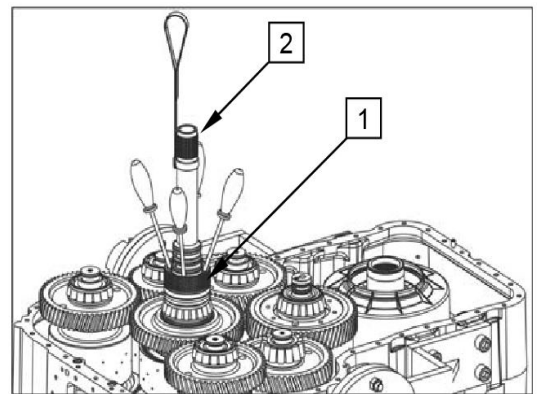

Figure 174
By means of a screwdriver press the snap ring on the 4 mounting holes (see arrows Figure 174) into the annula grooves of the input shaft (1) from clutch V until the input shaft (2) can be pulled out.